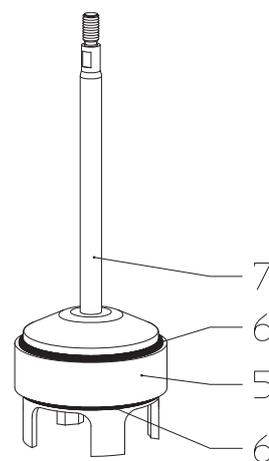

Fig. 10: Plug with soft seal
With plugs with soft sealing (refer to Fig. 10), the O-ring (pos. 3) has to be inserted in the seat ring (pos. 2).